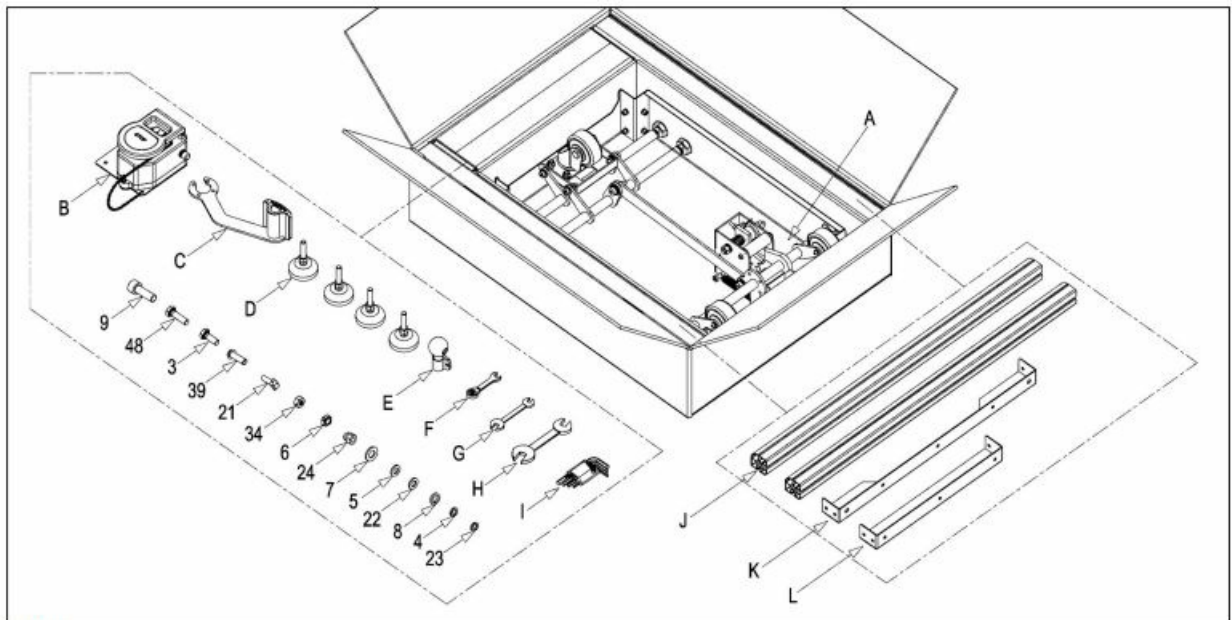

Fig.3
- Carefully unpack the Router Table Stand and ensure that all parts and components are included as listed in the parts list below. Refer to Fig 3 for an exploded diagram of all components.